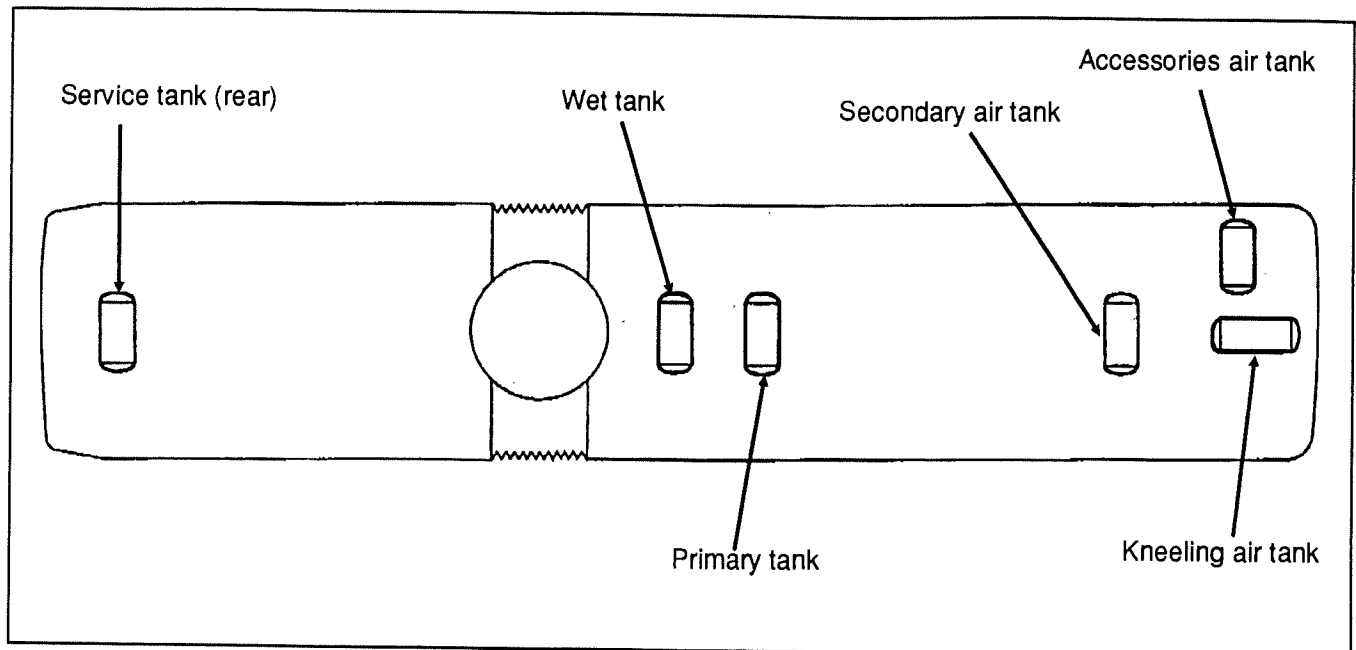

FIG. 10 - Location and function of air reservoirs
Refer to figure 10 for location of the six (6) air reservoirs. Each reservoir has a specific function: one for the primary brake system, one serves as the wet tank, one for the secondary brake system (secondary), one serves as the service tank for the rear axle brakes (5), and the remaining two are respectively for the pneumatic accessories and the kneeling system.